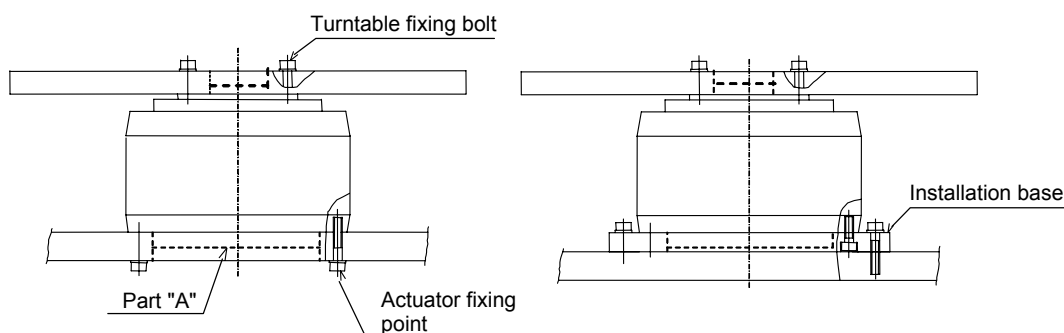

Fig. 2.1 Actuator Installation
- The part "A" in Fig. 2.1 contains the precision part (resolver). DO NOT LOOSEN the bolts in the part "A." Also do not install parts or apply excessive force on this part as designed accuracy and function may be ruined.